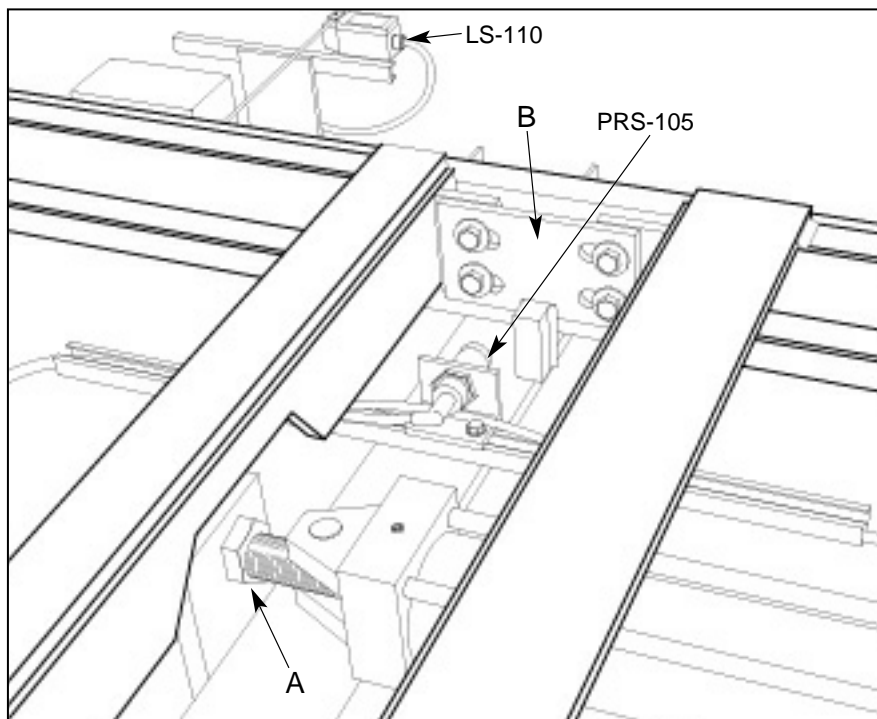

Figure 2.32 RACKVEYOR.
2.3.2 Adjust threaded rod on cap end of cylinder (figure 2.32, item A) so loader pushers center rack bay with loader center line.
2.3.3 Adjust tie-plate (figure 2.32, item B) that links the two carriages together so unloader pushers center rack bay with unloader center line while the loader rackbay is centered.
2.4.2 Adjust threaded rod on cap end of cylinder (figure 2.32, item A) so loader pushers center rack bay with loader center line.
2.4.3 Adjust tie-plate (figure 2.32, item B) that links the two carriages together so unloader pushers center rack bay with unloader center line while the loader rackbay is centered.